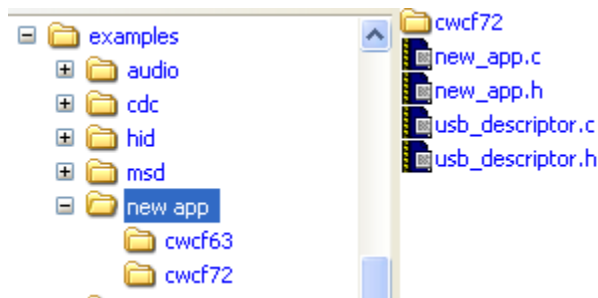

Figure 5-1. New application directory
4. Create a new file for the main application function and the callback function as defined above. In Figure 5-1, the new_app.c and new_app.h are used for the same purpose.